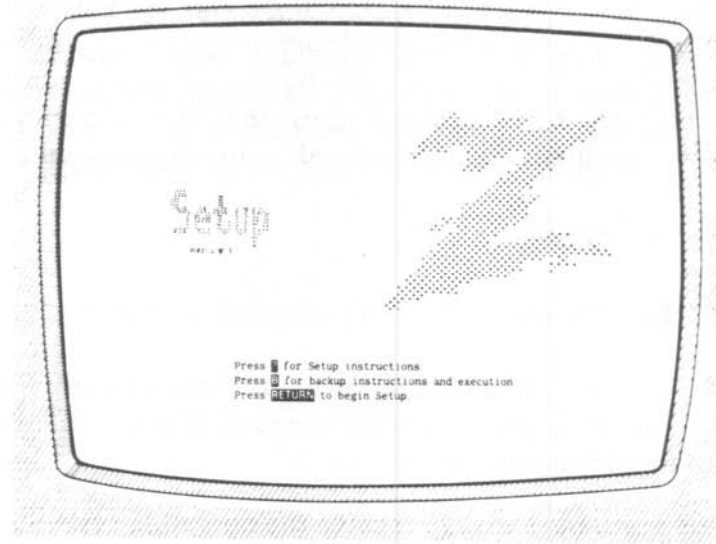

Figure 1-4
3. Boot up with the drive containing the Setup Utility Disk. The Setup utility will be invoked automatically and a menu will appear, as shown in Figure 1-4.